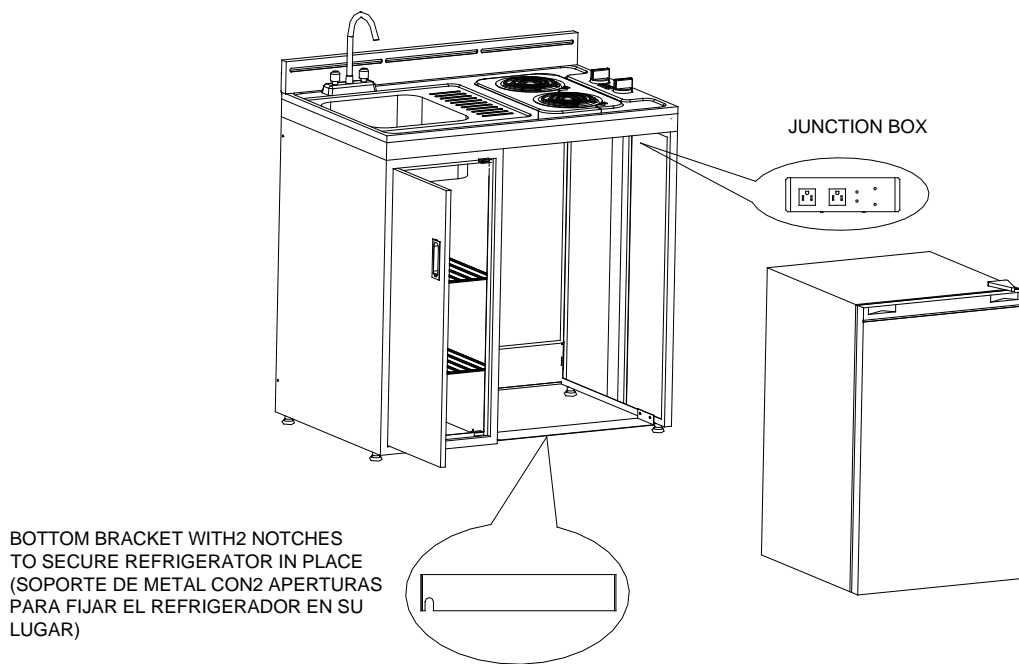

Figure No. 7
- Connect the Refrigerator power supply cord to the receptacle in the junction box located at the back of kitchen cabinet under the countertop as shown in Figure No. 7.
- Secure refrigerator leveling legs in place using the bottom bracket notches as shown in Figure No. 7.